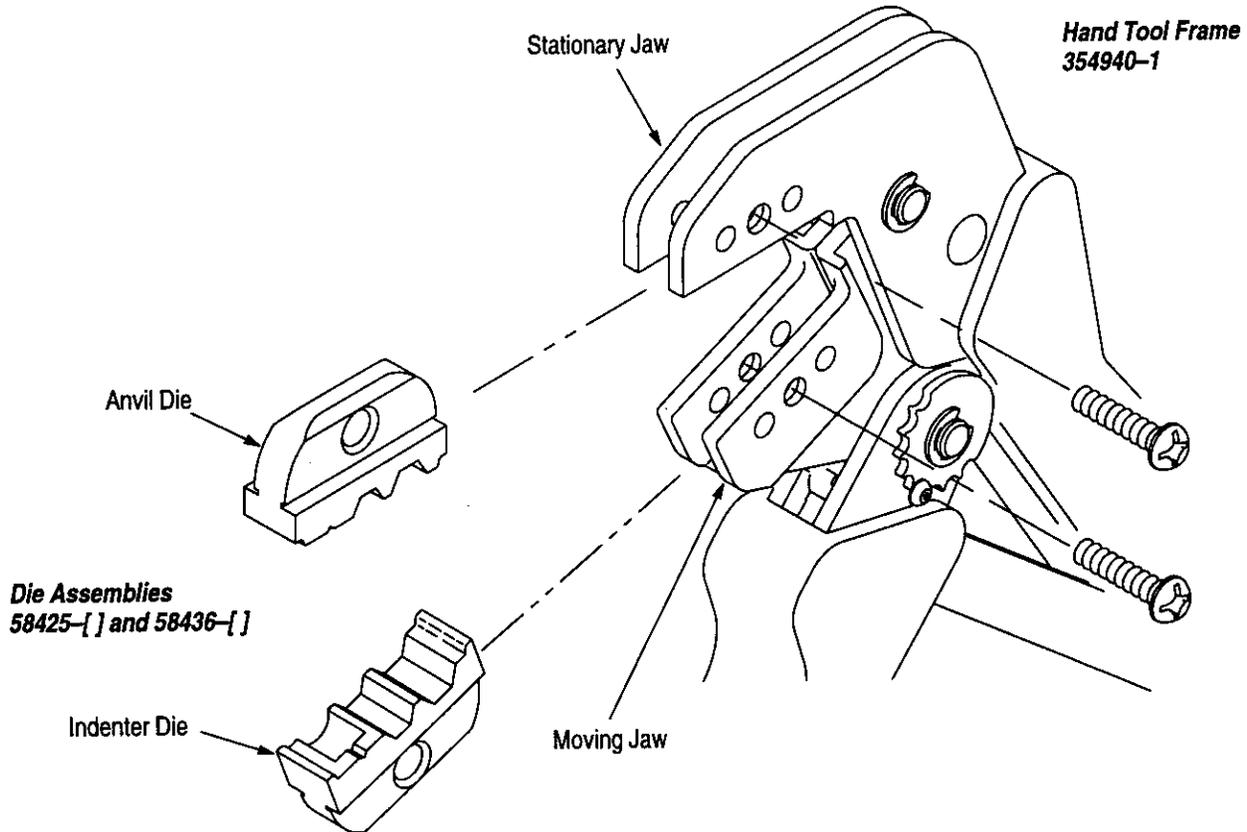

Figure 1
## 2. DESCRIPTION (Figure 1)
2. See Figure 1 for normal orientation of the dies. Insert the dies inside the tool jaws and align the retaining screw holes.
Customer-replaceable parts are shown in Figure 1. Available separately, AMP PRO-CRIMPER II Repair Kit 679221-1 includes a variety of pins, rings, screws, and springs. If the dies are damaged or worn excessively, they must be replaced. Order the repair kit and replaceable parts through your AMP representative, or call 1-800-526-5142, or send a facsimile of your purchase order to 1-717-986-7605, or write to: